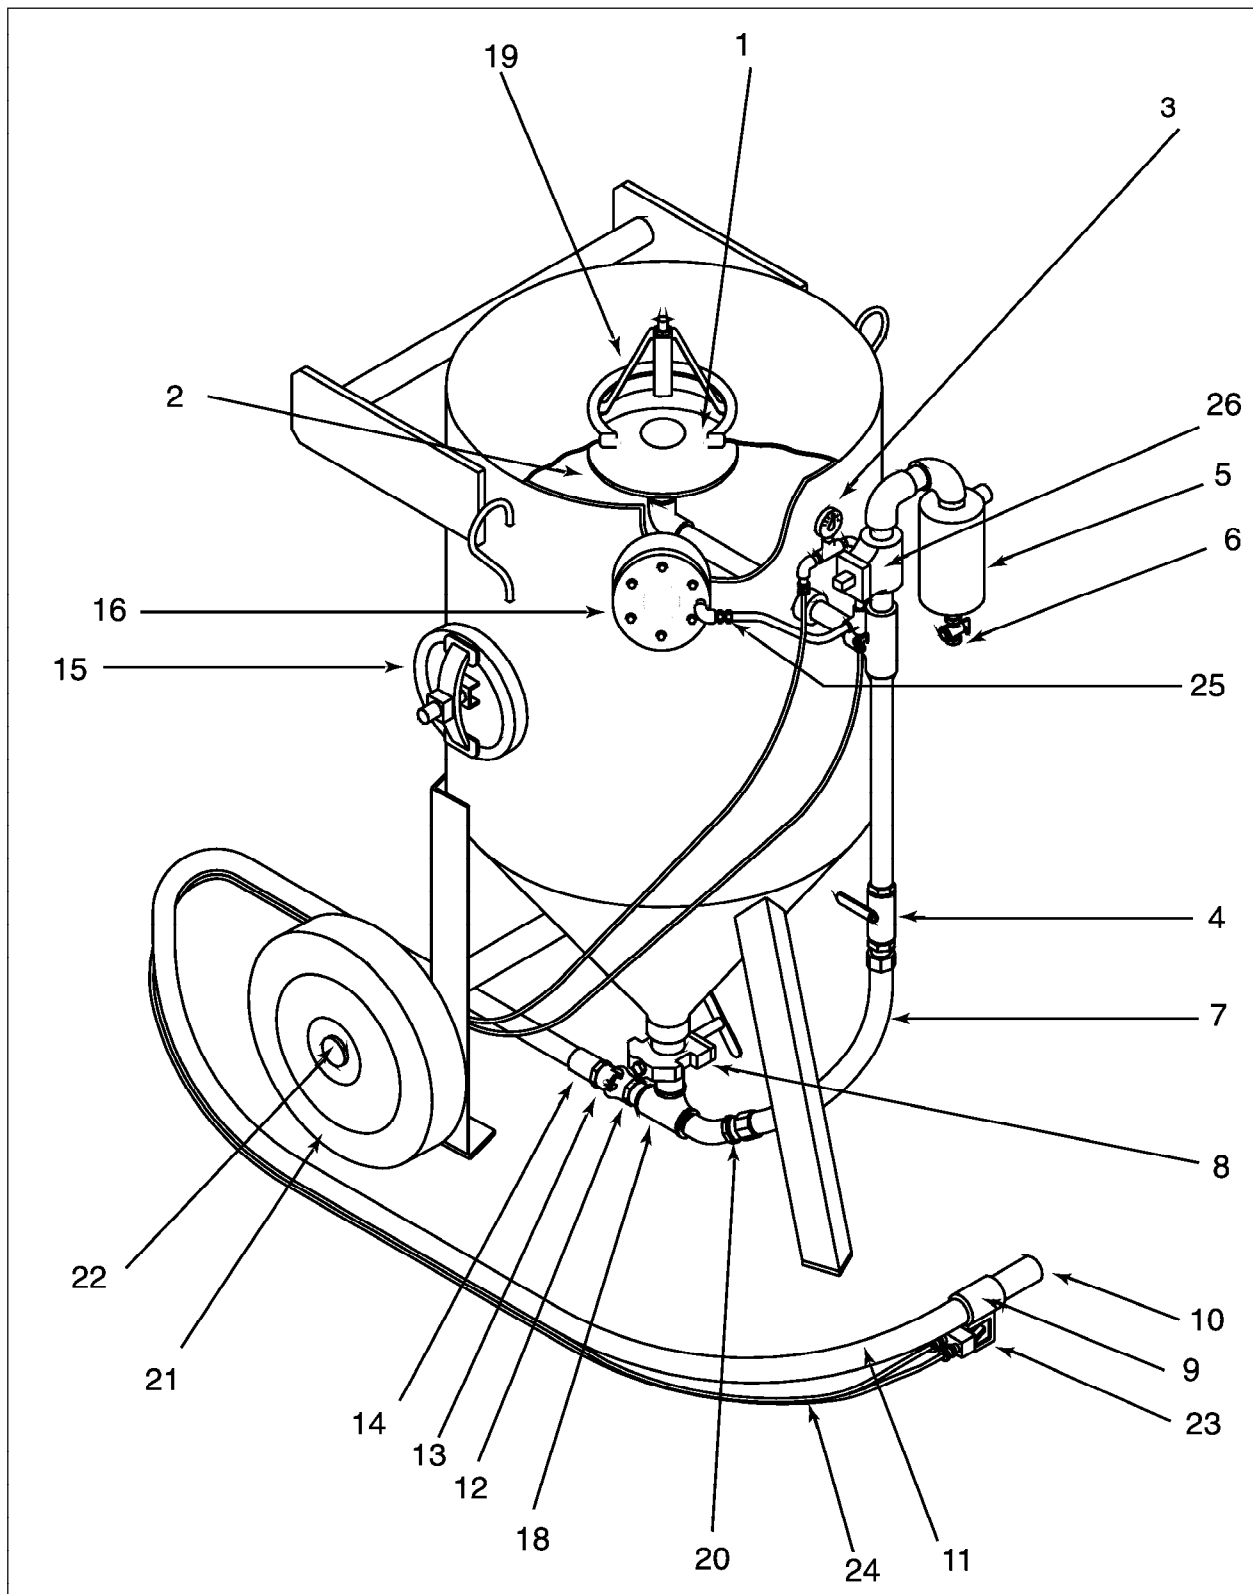

Figure 3-1 SuperBlast 680 System With Saf-Stop II Remote Controls
The ***SuperBlast 680*** system with ***Saf-Stop II*** remote controls is illustrated in *Figure 3-1* and the parts list is provided in *Table 3-1*. Reference numbers in *Figure 3-1* correspond to the numbered items in *Table 3-1*.
Refer to Figure 3-1. Use the following procedure to set up the *SuperBlast 680* system with *Saf-Stop II* remote controls:
2	Locate the pressure gauge (3) in a box taped to the pipe string support bracket. Install the $\frac{1}{4}$ " gauge in the connection tee, as illustrated in Figure 3-1.
1	Close main air valve (4). (In the closed position, the handle is perpendicular to the pipe, as illustrated in Figure 3-1.) Pressurize the air line that connects the compressor to the pressure vessel.